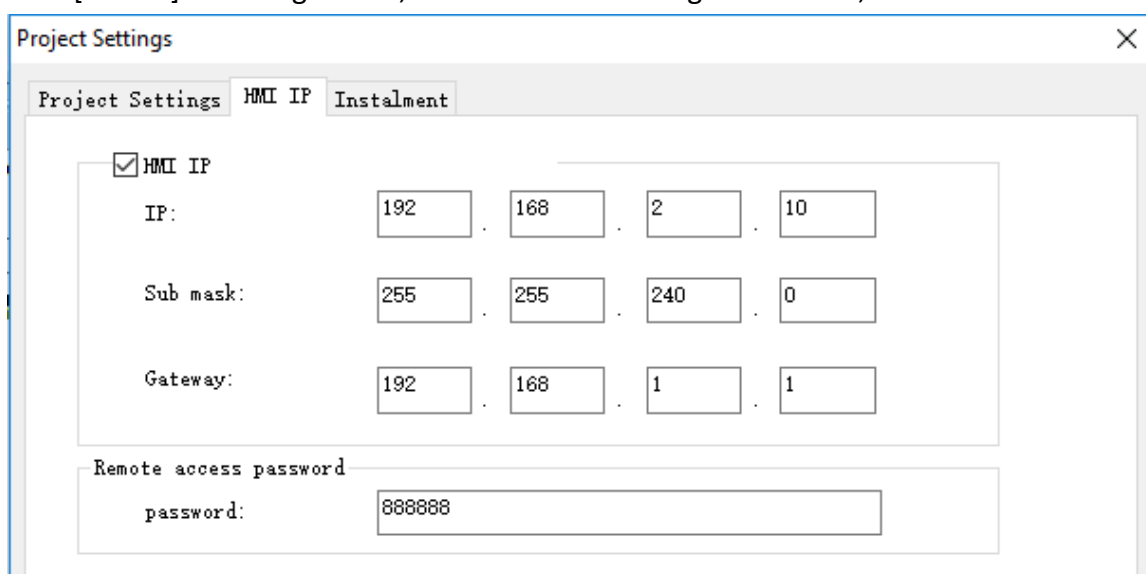

Figure 1
- 3) Click [HMI IP] in setting screen, and enter the IP as Figure 1 shows;